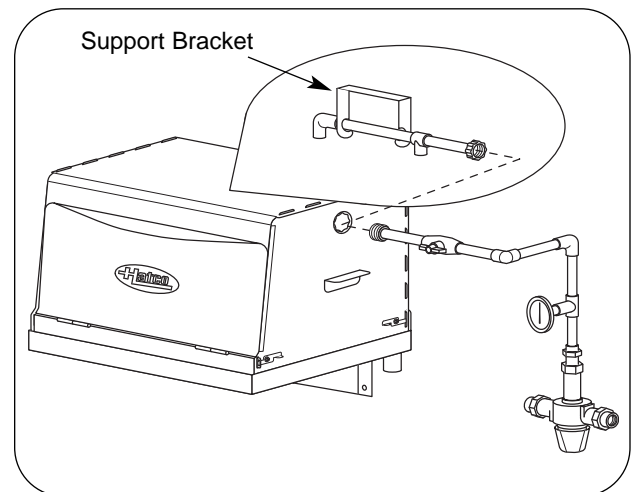

Figure 7. Spray Arm Installation
4. Secure spray arm to cavity housing by twisting the spray arm into the support bracket located inside the cavity housing. The support bracket will be located between the two spray heads. (See Figure 7.)